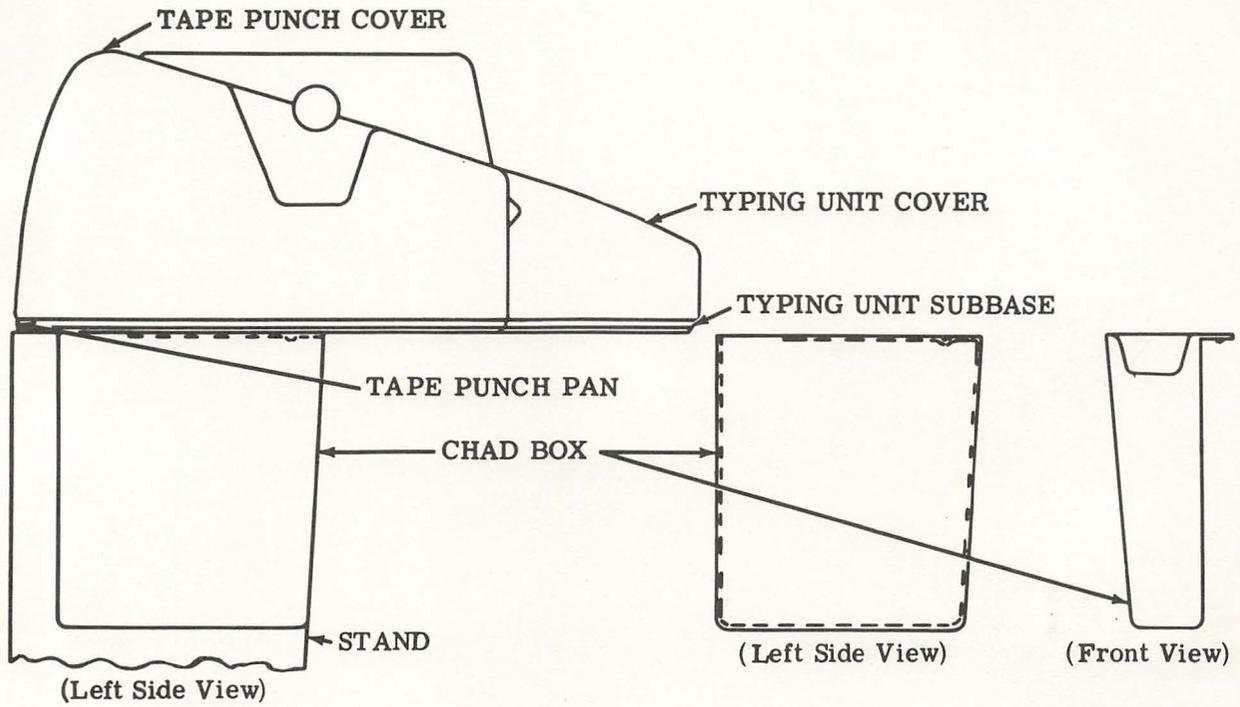

Figure 14 - Tape Punch Chad Chute Assembly
7.03 Figure 14 illustrates the chad box installation.